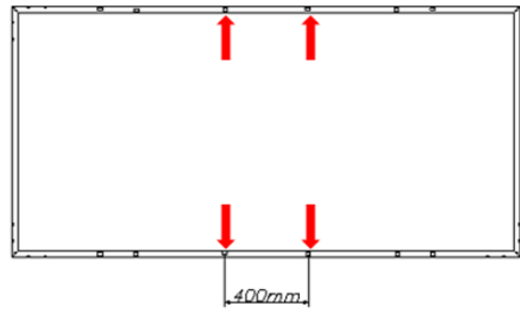
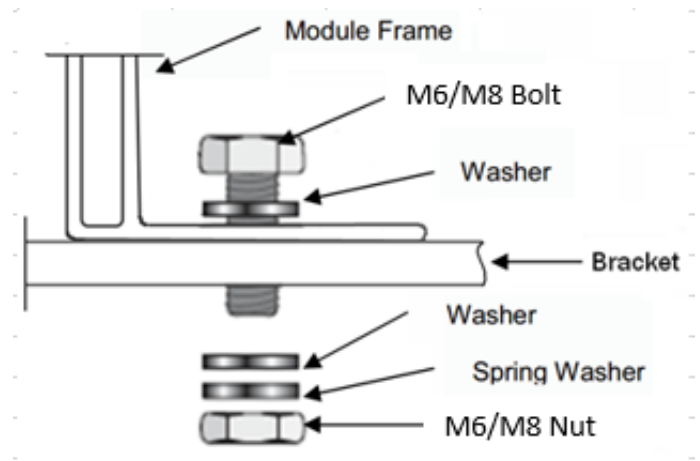

Figure 9: 400mm spacing bolt installation
Figure 10: Schematic diagram of bolt
- ③ The bar's top surface contacted with module frame should come with grooves compatible with an M8 bolt.
- ④ If the bars do not come with grooves, holes of a suitable diameter may need to be drilled to allow bolts to be attached to the bars at the same locations as mentioned above.
- ⑤ Secure each clamp by attaching plain washer, spring washer, and nut, in that order.
- ⑥ Both close-ups in Figure 10, indicating the middle clamps and Figure 9, indicating the side clamps are for reference. Suggested dimensions for middle clamps are: $a \geq 40$ mm, $b \geq 26$ mm, $c \geq 5$ mm, $d \geq 28$ mm, and $\varnothing = 9$ mm. The torque for tightening the nut and bolts are recommended